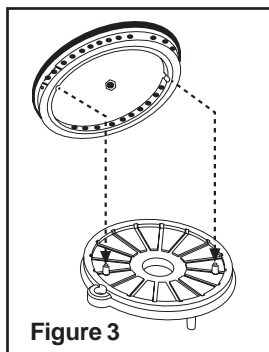

Figure 3
**CAP AND GRILL:** Place the burner cap so it is centered over the burner. Be sure the notches in the burner cap fit over the studs protruding from the burner (see Figure 3). The burner cap and grill are coated with a high temperature porcelain finish that prevents rust and can be cleaned with oven cleaner.